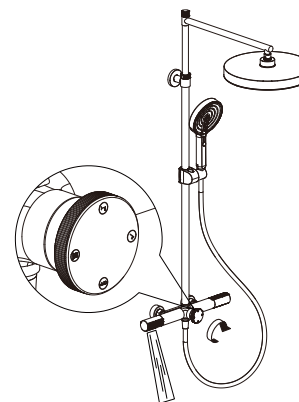

Figure 14C
- ③ When the water distribution handwheel indicator "bath water" (⊖) is at the top, the handwheel (bath water) is in the water outlet mode (the water outlet angle can be adjusted), as shown in Figure 14C;